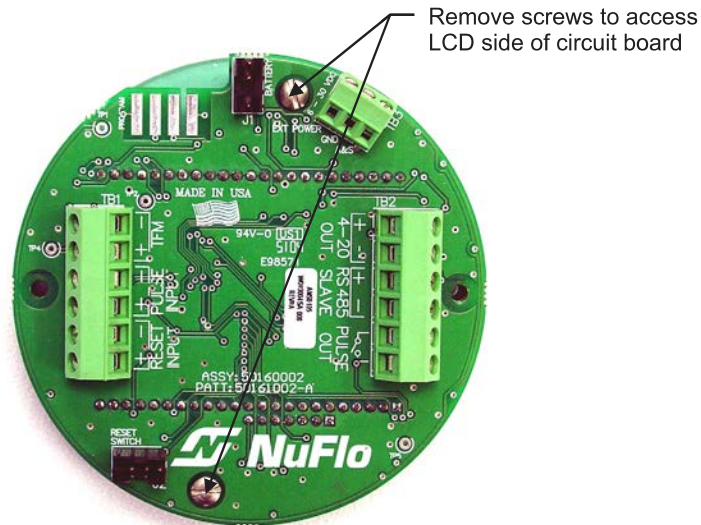

Figure 6.5—Disassembly of circuit board/keypad assembly
7. Remove the two #4-40 × 5/16” screws fastening the circuit assembly to the keypad assembly (Figure 6.5, page 94).
4. Remove the two #4-40 × 5/16" screws fastening the circuit assembly to the keypad (*Figure 6.5, page 94*).